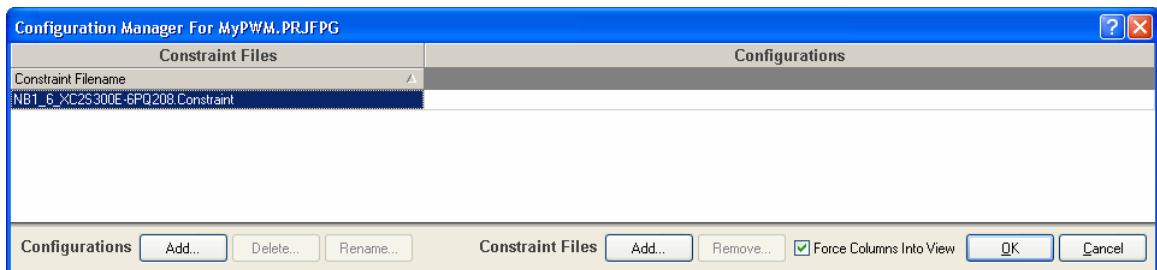

Figure 26. Configuration Manager with Spartan-II daughter board constraint file present.
3. Select the constraint file labelled NB1_6_XC2S300E-6PQ208.Constraint and click Open. You should see the same as Figure 26.